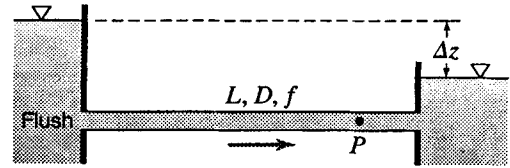

Figure P8.60
- 8.61 A 320-mm-diameter pipe ( $f = 0.025$ ) 140 m long runs from one reservoir to another, both ends of the pipe being under water (Fig. P8.60). The intake is square-edged. The difference between the water surface levels of the two reservoirs is 36 m. Find (a) the flow rate, and (b) the pressure in the pipe at a point 95 m from the intake, where the elevation is 39 m lower than the surface of the water in the upper reservoir.